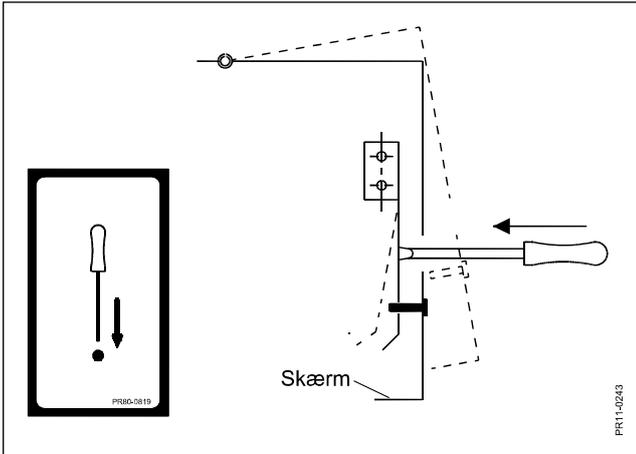
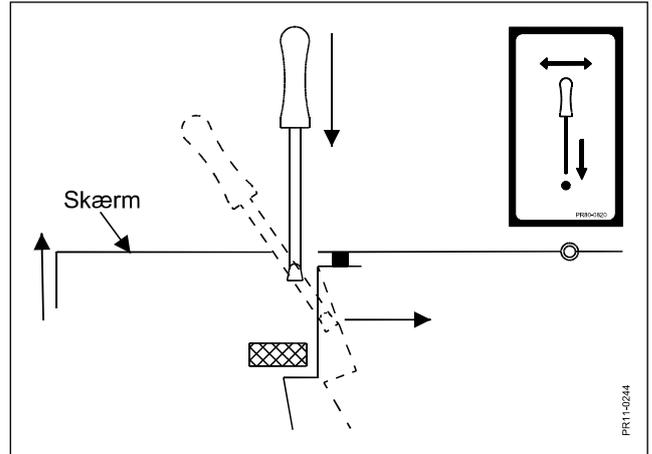

Fig. 6-1
Fig. 6-2
- Fig. 6-1 In connection with maintenance you will often need to open or remove guards.
- Fig. 6-2 All guards which must not be lifted for transport have for safety reasons been fitted with a lock. The lock ensures that the guard cannot be opened without using tools. Fig. 6-1 and 6-2 show the two different types of lock and the corresponding transfers which mark and illustrate the locks on the machine.